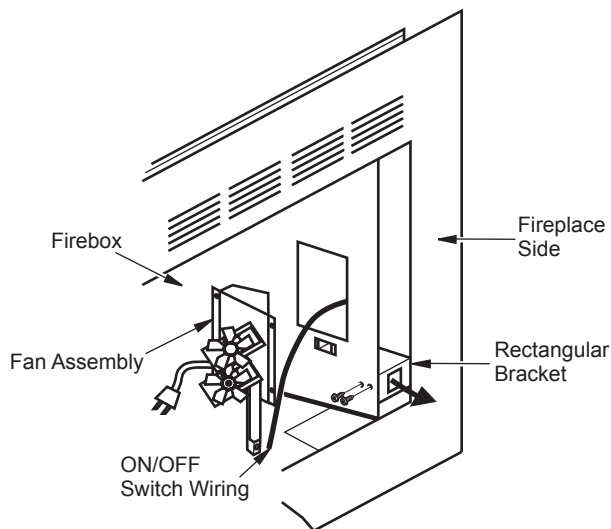
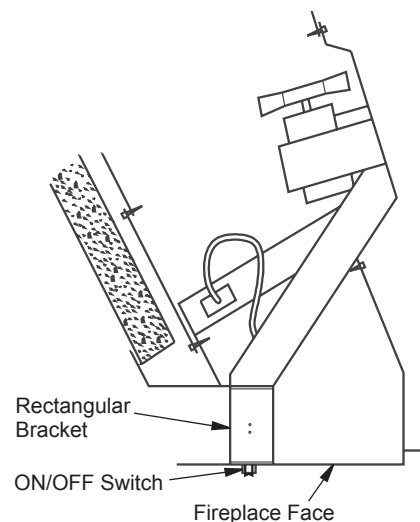

Figure 7
Figure 8
2. Align two holes on side of rectangular bracket with two holes on side frame. Secure with screws provided (see Figure 7).
3. Place blower assembly through hole in firebox. Make sure wire protrudes through notch in fireplace side. Align two holes on side of rectangular bracket with two holes on side frame. Secure with screws provided (see Figure 7). Blower assembly should now look similar to Figure 8.